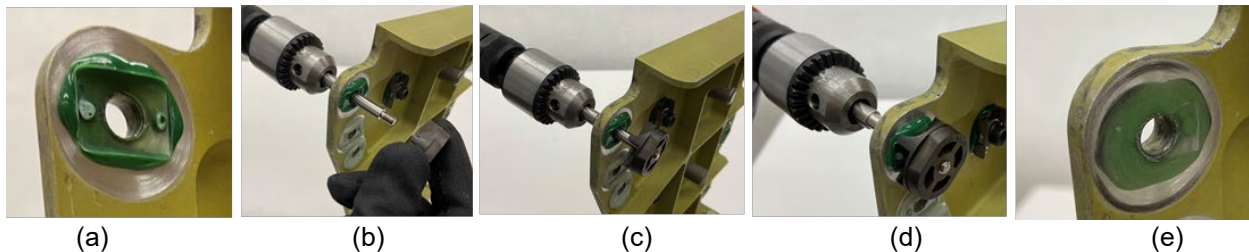

Figure 10. Removal of Residual Sealant/Adhesive with Torlon Adhesive Cutters – Drill Motor – Standard and Segmented Mandrel
3.1.1 Process for Removal of Bulk Sealant/Adhesive with Torlon Adhesive Cutters (Drill Motor) (Figure 10)
- i. Select the correct Torlon Adhesive Cutter based on the size of the replacement nutplate (Figure 10(a)):
- iii. Insert mandrel into structure, chucked (Figure 10(b)) or un-chucked
- iv. Attach the selected Torlon cutter to the end of the corresponding mandrel and hand tighten (Figure 10(b))
- vii. Ensure the cutting surfaces of the Torlon tool are facing the remnant materials on the structure (Figure 10(c))
- viii. Press the trigger to start spinning the mandrel (Figure 10(d)). While spinning the mandrel, slowly draw the cutting surface towards the remnant material on the structure. Continue residual material removal until most of the remnant materials are removed (Figure 10(e)). A thin residual layer of adhesive may remain on the structure (i.e. a "ghosting layer").